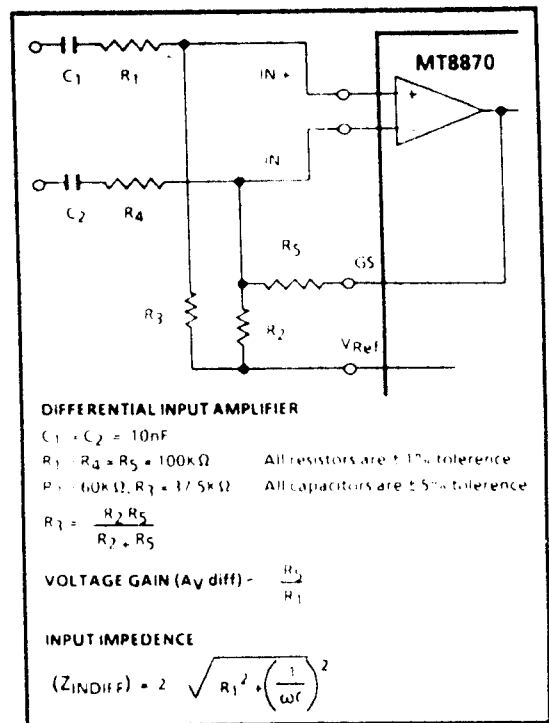

Figure 8. Differential Input Configuration
The input arrangement of the MT8870 provides a differential-input operational amplifier as well as a bias source (V_{REF}) which is used to bias the inputs at mid-rail. Provision is made for connection of a feedback resistor to the op-amp output (GS) for adjustment of gain. In a single-ended configuration, the input pins are connected as shown in Fig. 2 with the op-amp connected for unity gain and V_{REF} biasing the input at $\frac{1}{2}V_{DD}$. Fig. 8 shows the differential configuration, which permits the